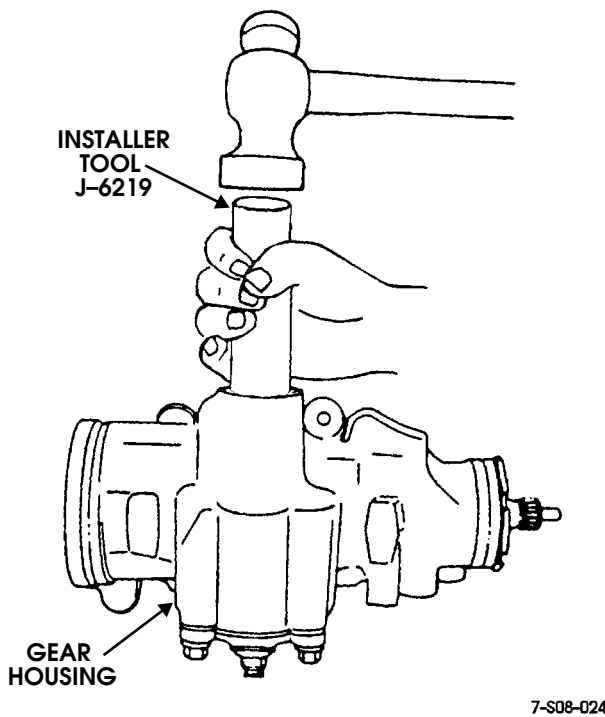

Figure 8-50: Pitman Shaft Seal Installation
4. Install backup washer on single lip seal (Figure 8-50).